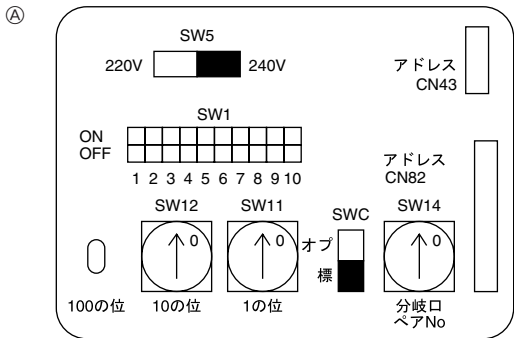

Fig. 4-4
4.3. Setting addresses (Fig. 4-4)